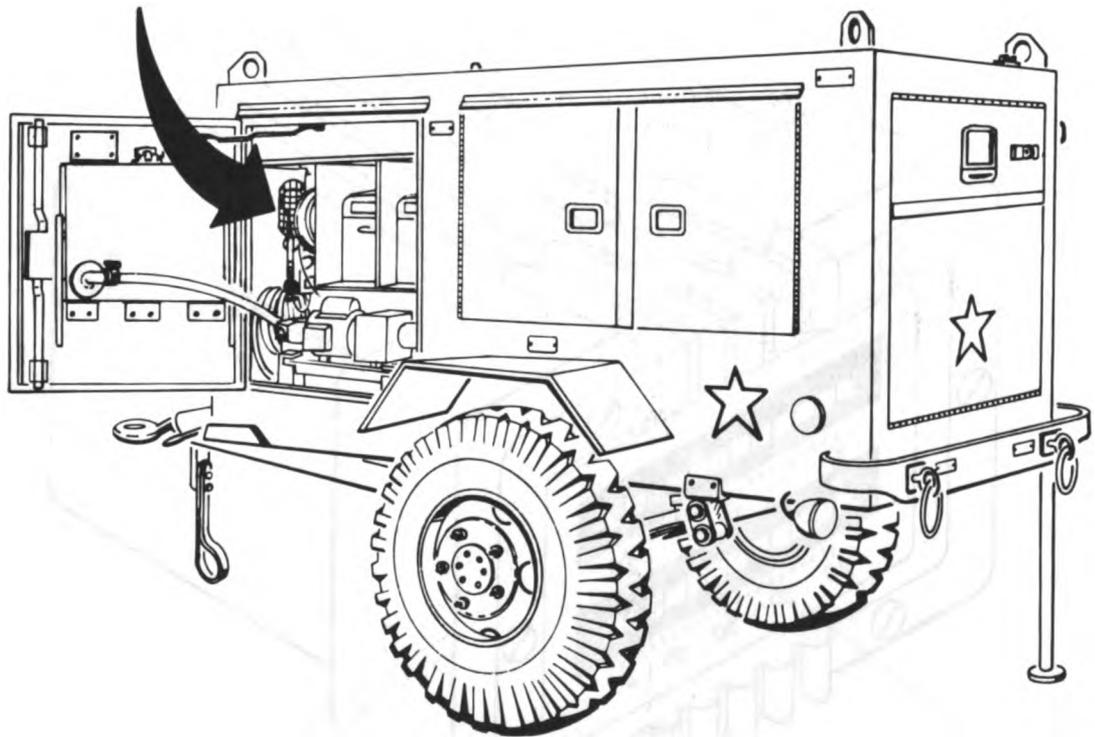
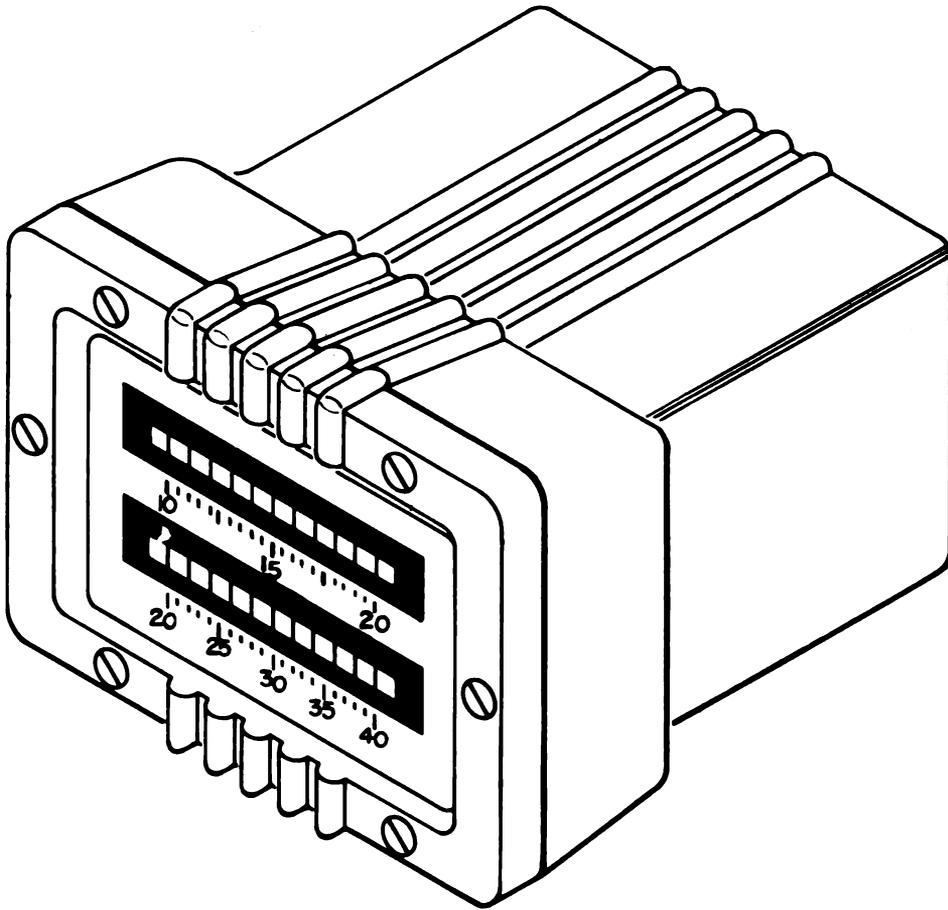

Figure 1-33. Drop Light.
Figure 1-34. Tachometer.
- 1-13. Miscellaneous Tools and Supplies.** The HSTRU contains a drop light (figure 1-33) with a twenty-five foot cord. It also has tool boxes with standard hand tools such as a hacksaw and blades, wrenches, snap ring pliers, etc. Small special tools such as the hose skiving and deburring tools are also included in the tool boxes. A tachometer (figure 1-34) is included. This is used to help the operator maintain the desired engine RPM during testing of engine driven hydraulic systems.